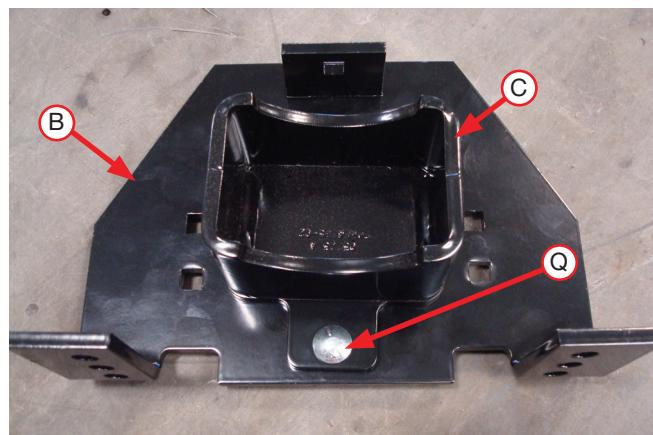
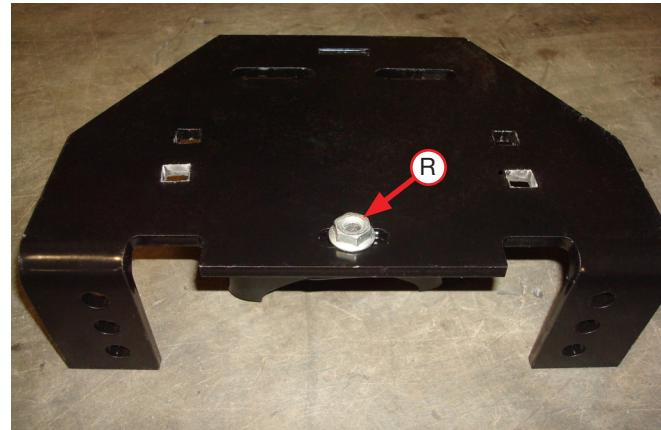

Fig. 10
Fig. 11
4. Install the lower bracket cup (C) onto the lower bracket (B) using a 5/16"-18 x 3/4" carriage bolt (Q) (Fig. 10). Cap with a 5/16"-18 serrated flange lock nut (R) (Fig. 11). Snug the bolt, but leave loose enough for the bracket to move freely in the slot.